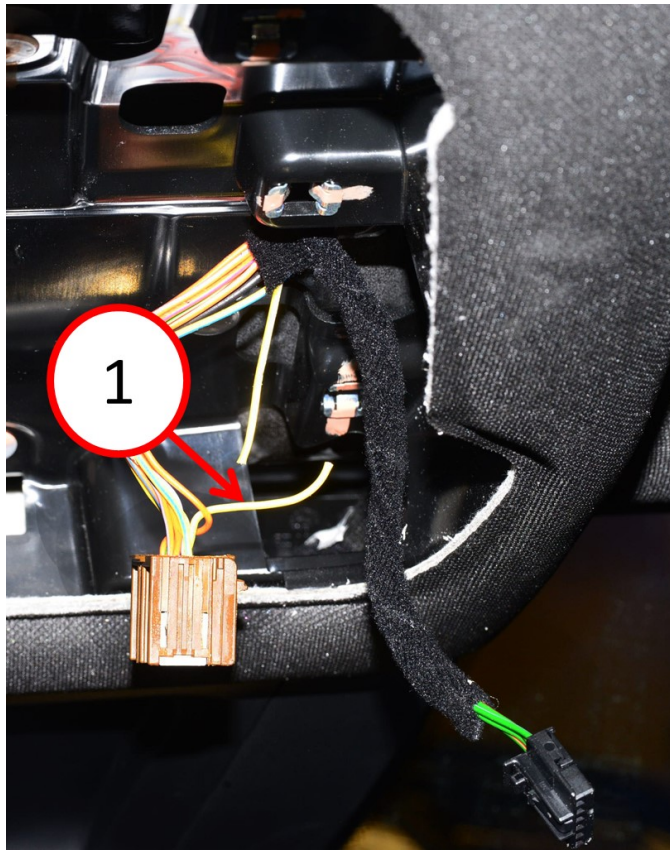

Fig. 2
6. Cut the dome lamp wire harness yellow/white wire (pin 6) Fig. 2.